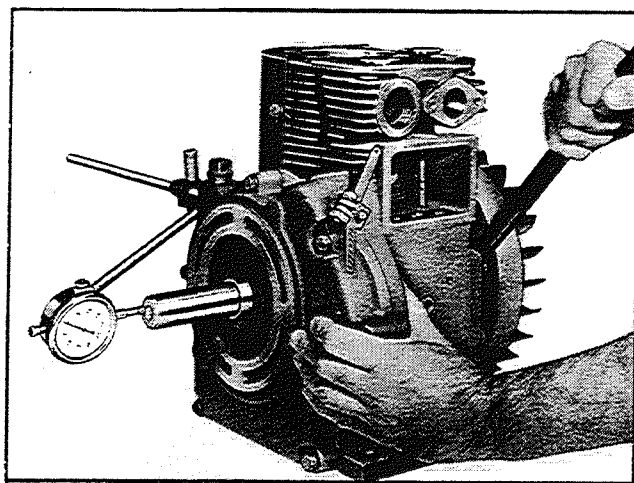

Fig. 47
*End play* is checked after crankshaft, gear cover and flywheel are mounted. The end play should be .001 to .004 inch with engine cold, and can be determined as illustrated in Fig. 47. Wedge a lever between the fly-